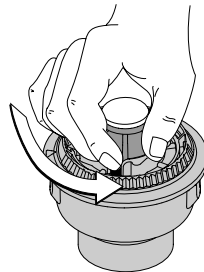

Fig. 27
1. Hold the outer spool, and unscrew the bump knob counterclockwise (Fig. 27).